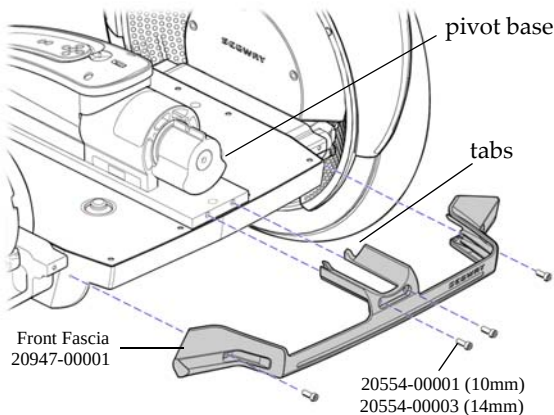

Figure 6-1: Remove or Install Front Fascia
2. Use 4mm hex wrench to remove (4) fasteners from front fascia. See Figure 6-1.
2. With fender (model i2 only) and tire/wheel assembly off, align front fascia tabs with holes beneath pivot base hub, and be sure they are free of debris and properly seated before threading fasteners. See Figure 6-1.